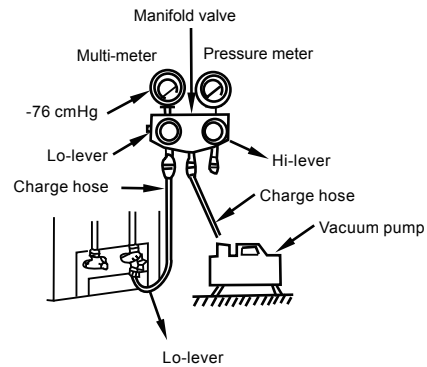

Fig. 7-4
- Expel the air with a vacuum pump (Refer to Fig.7-4) (Please refer to its manual for how to use the manifold valve)